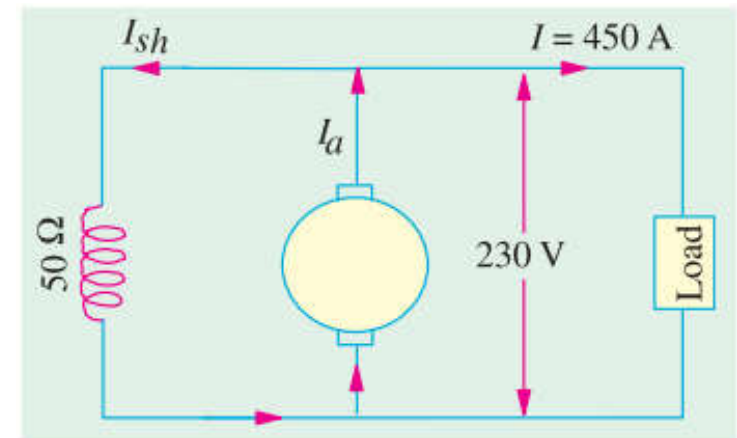

Fig. 26.46
**Solution.** Generator circuit is shown in Fig. 26.46.